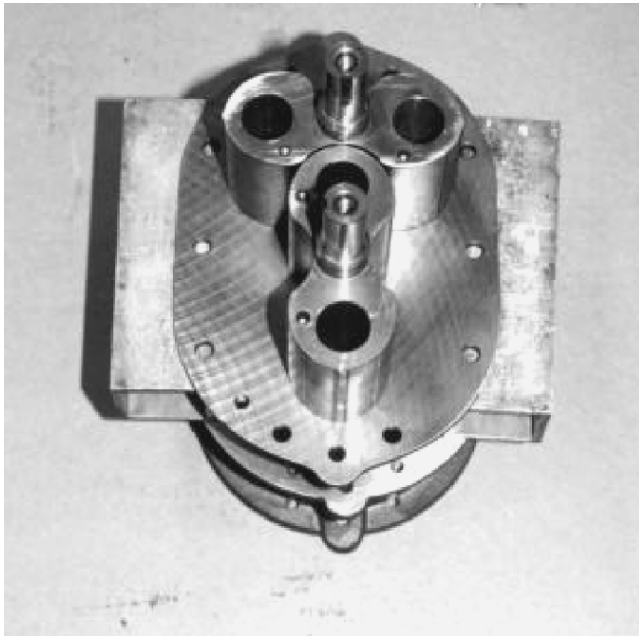

Figure 12. Rotors Assembled on Drive End Plate.
- b. Using the drive end plate as a fixture, support it high enough so the input shaft of the drive rotor clears the assembly surface. Refer to Figure 12 below.
- c. Place rotors in fixture with the drive rotor to the left. See Figures 12 and 13 below.